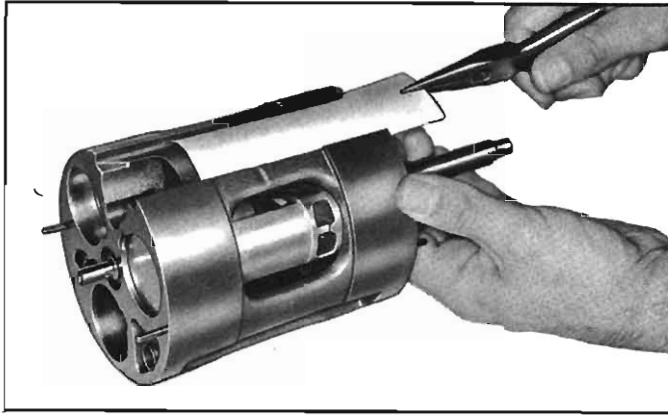

Fig. 11-46—Removing Suction Crossover Cover
6. Remove the suction crossover cover (fig. 11-46).